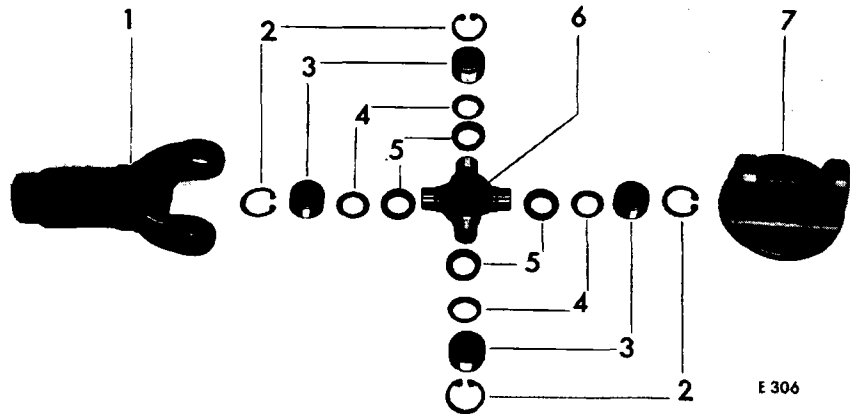

Fig. 1. Universal coupling details
For lubricating the rollers in the bearing cups (3), Fig. 1, use Shell Dentax 250 or Retinax A, or equivalent.